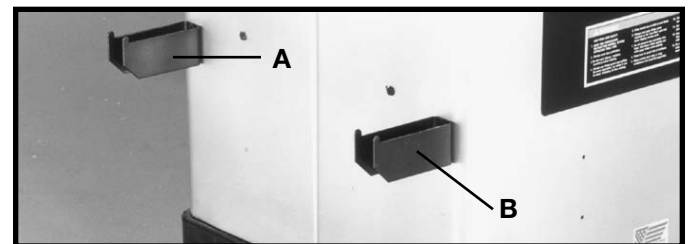

Fig. 32A
Assemble the rip fence holder brackets (A) and (B) Fig. 32A, to the four holes located in the left hand side of the saw cabinet using four #10x1/2" sheet metal screws supplied.